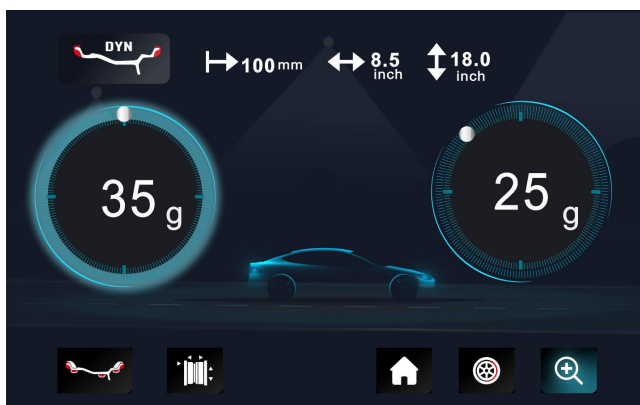

Fig.4
4.1.7. Press v, until the left LED lit up full, clip weight on 12 o'clock position (Fig.4)